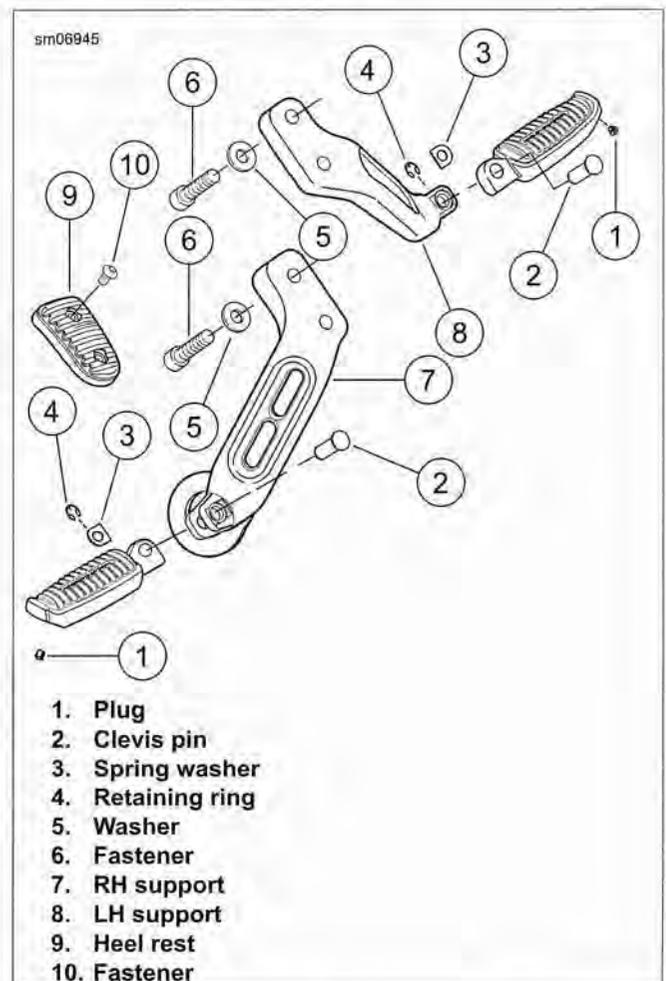

Figure 2-232. Left and Right Passenger Footrests
1. See Figure 2-232. Remove retaining ring (4), clevis pin (2), footrest and spring washer (3). Discard retaining ring.
3. Remove two fasteners (6), washers (5) and footrest support (7, 8) from frame.
1. See Figure 2-232. Attach left and right footrest support (7, 8) to frame with two fasteners (6) and washers (5). Tighten to 45-50 ft-lbs (61-68 Nm).
3. Install footrests on footrest support with spring washer (3). Make sure spring washer is positioned inside support bracket mounting boss with the square edge toward the inside.
4. Align holes in footrest and support bracket and push clevis pin (2) from top down through hole in support bracket. Secure with **new** retaining ring (4).